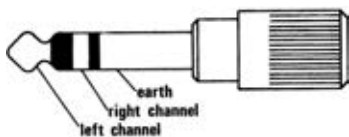

FIG. 43. Standard connections to jack plug
**Jack, Jack plug:** A type of connector consisting of a quarter inch segmented shaft which fits a socket consisting of a quarter inch hole with sprung contacts inside which make on to the various segments of the plug. For standard connections to the plug, *see* Fig. 43.